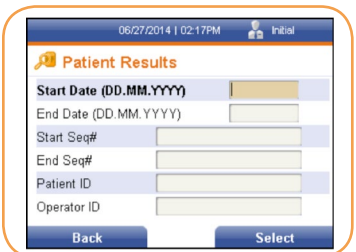

FIGURE 48
1. Using the right soft key, select Patient Results. The Patient Results screen is displayed (Figure 48).